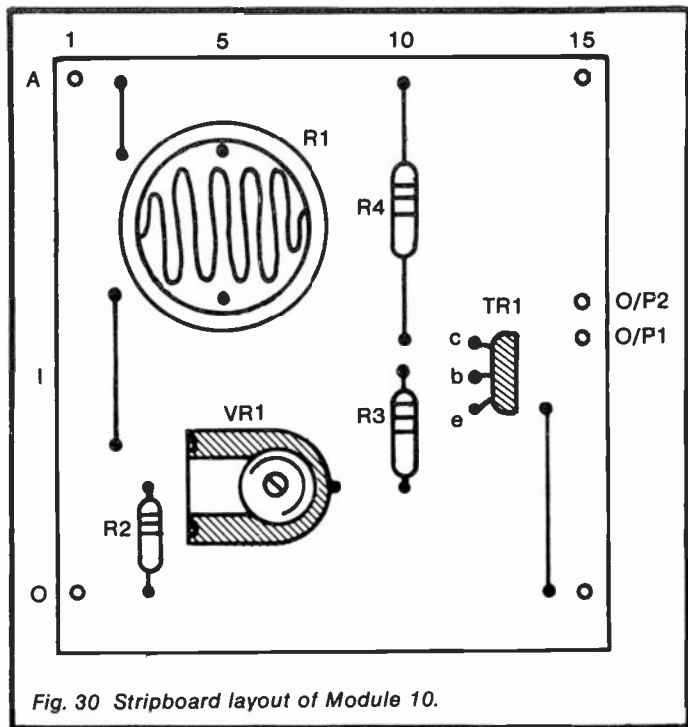

Fig. 30 Stripboard layout of Module 10.
*Stripboard layout:* see Figure 30. Solder blobs join L7 to M7.